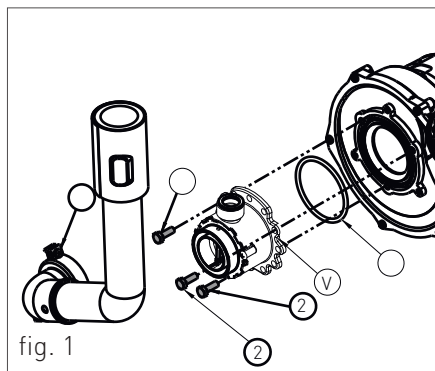
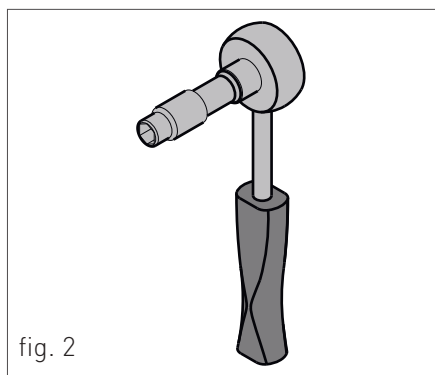

fig. 1
fig. 2
To remove the panel of the boiler, please follow the instructions below (see fig.1):
- > Grab at the same time the support brackets of the control panel (fig. 1) loosening them and turn the panel downwards;
- > unscrew the four fastening screws 1 - fig. 1;
- › turn the discharge tap of the system ‘RS’ (fig. 1);
- › loosen the two screws '1' (fig.1) from the fastening bush, and remove the air suction tube;
- › unscrew the three fastening screws '2' (fig.1) of the venturi 'V' (fig.1) using a 10 key, as shown in figure 2;
- › remount the components following the demounting operations in reverse making sure that gasket 'G' is re-assembled as shown in fig.1;
10. FLAME PRESENT SIGNALLING / IT ALSO INDICATES, ON 3 PERCENTAGE LEVELS, THE MODULATING POWER LEVEL OF THE BOILER (fig.2)